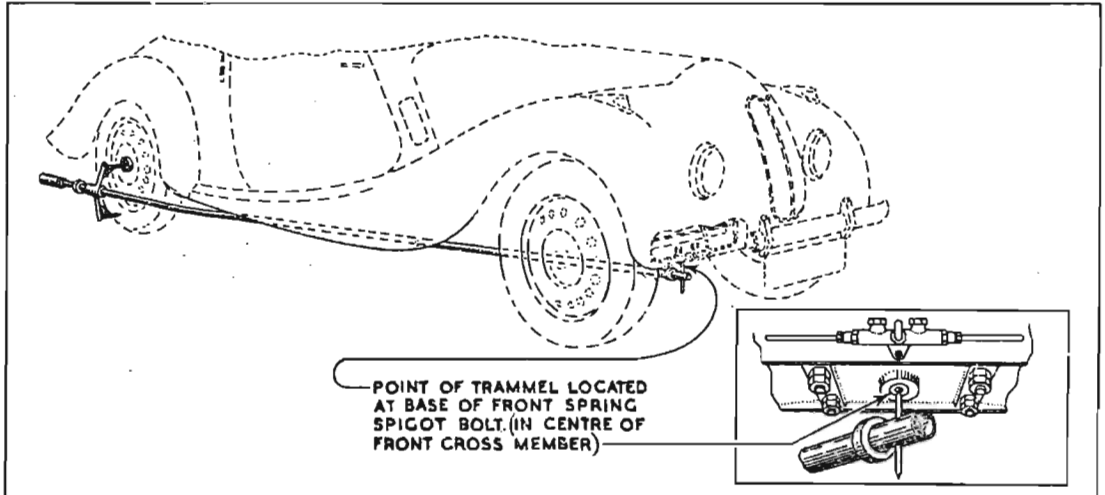

Fig. 1.
2. Using trammels - T.F.N. 5033 - check the distance from the centre of the front spring spigot bolt to the centre of each rear half shaft at its outer end. (see fig. 1).
4. Bend back the tabs of the lockwashers and remove the nuts and lockwashers from each suspension arm shaft. Using the special extractor - T.F.N. 5005 - break the taper. (see inset to fig.1 of Service Bulletin No. 2.).